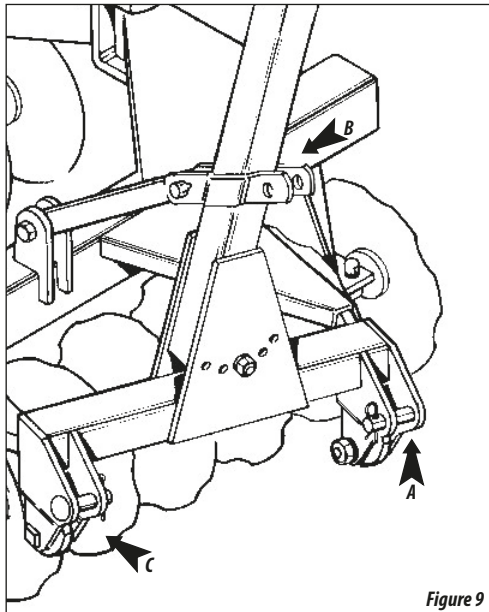

Figure 9
- 01 - To engage the harrow in the tractor hydraulic lift the header item 2, in the front frame and lock with the pin item 3.
- 02 - Engage the lower left arm of the tractor hitch pin grid as "A", figure 9.
- 03 - Engage 3rd point tractor hitch plate in the header, as the letter "B", Figure 9.
- 04 - Finally, with the help of lever height of the tractor hitch pin on the lower right arm tractor, as the letter "C", Figure 9.